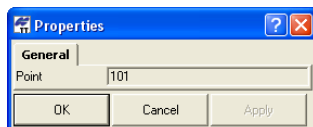

Figure 5-115. General Properties
2. View the number of the image (Figure 5-115).